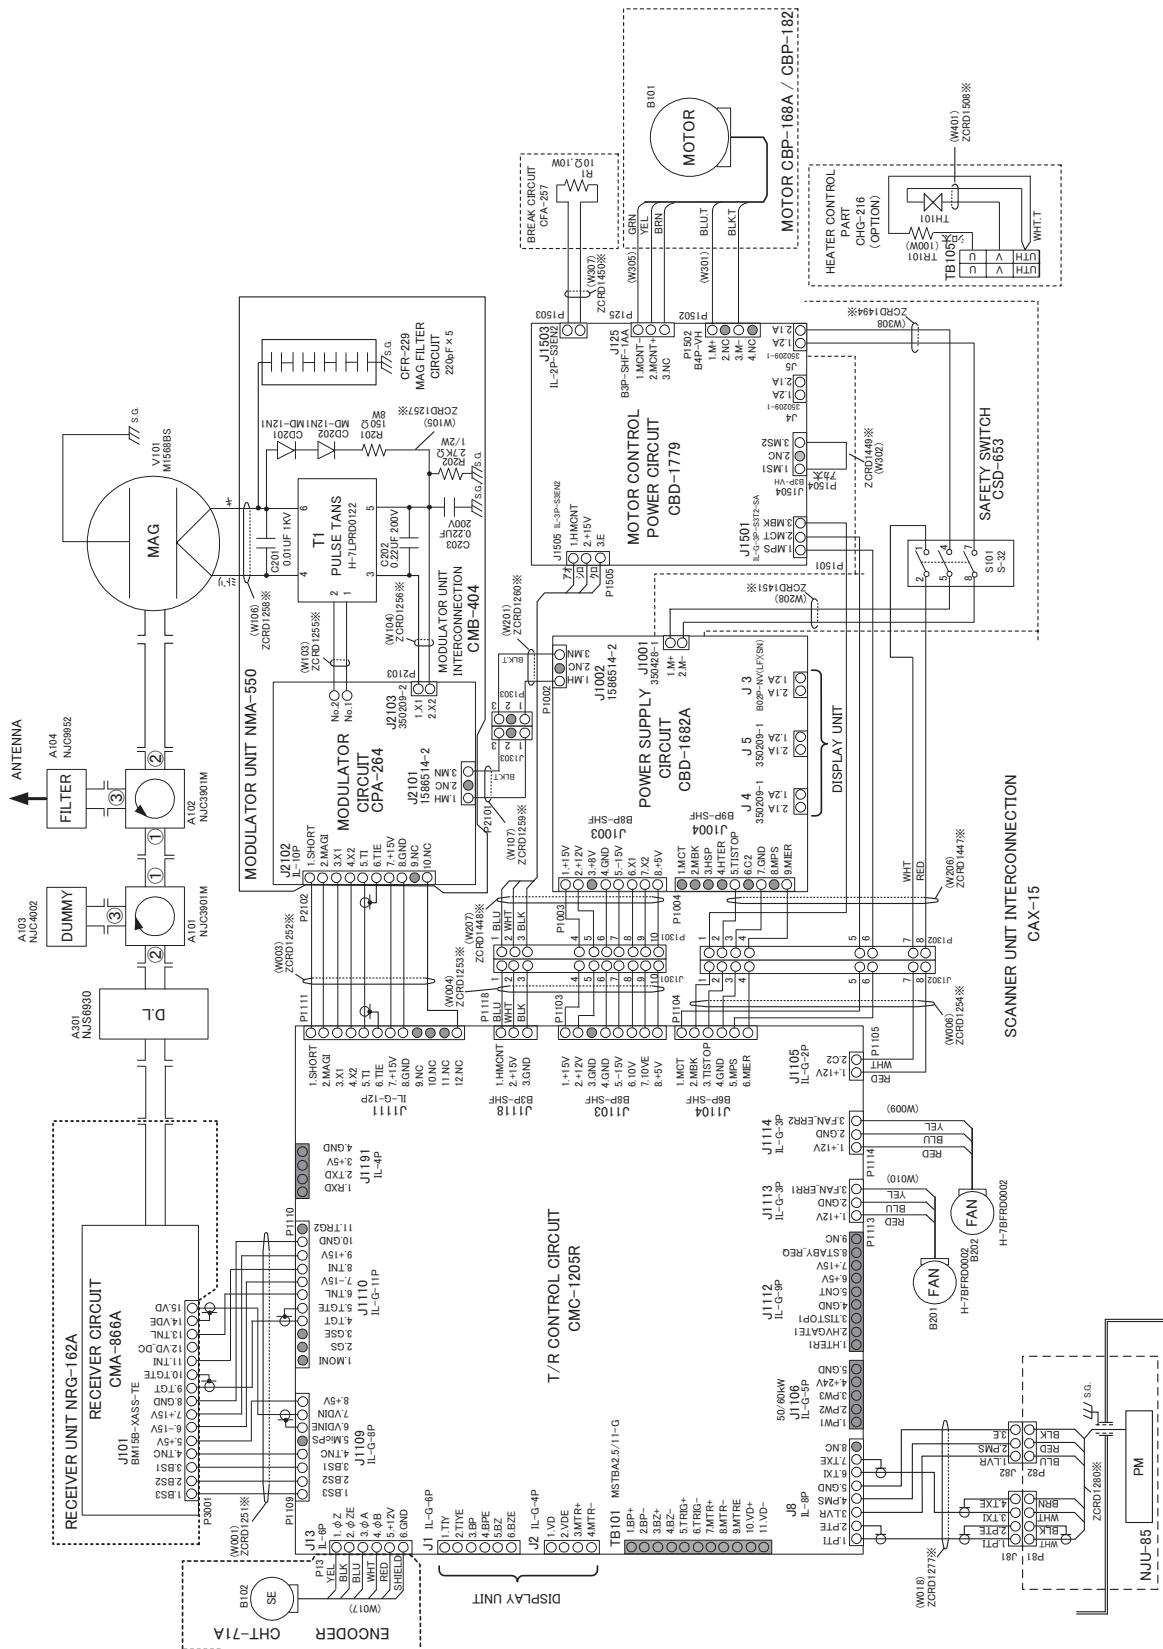

Figure 15 NKE-2254 Interconnection Diagram of Scanner Unit
- FIGURE 15 NKE-2254 INTERCONNECTION DIAGRAM OF SCANNER UNIT